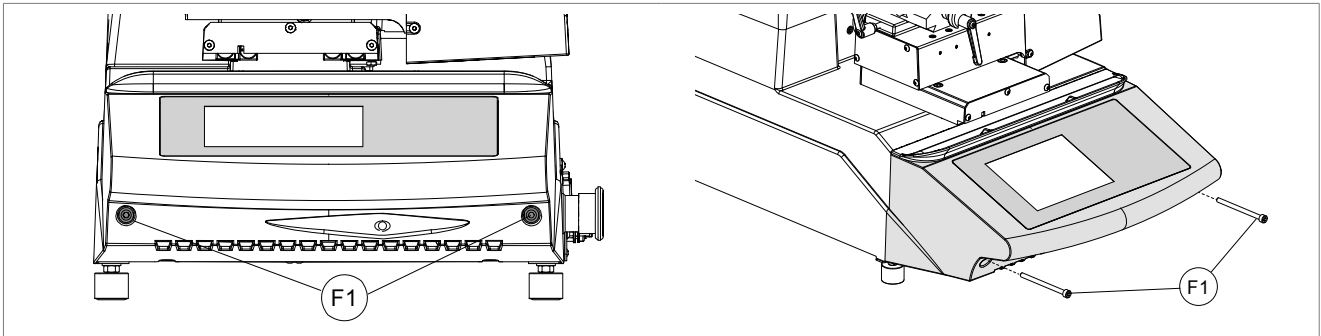

Fig. 44
2) Loosen the 2 fixing screws (F1) and remove the display stand (Fig. 44).